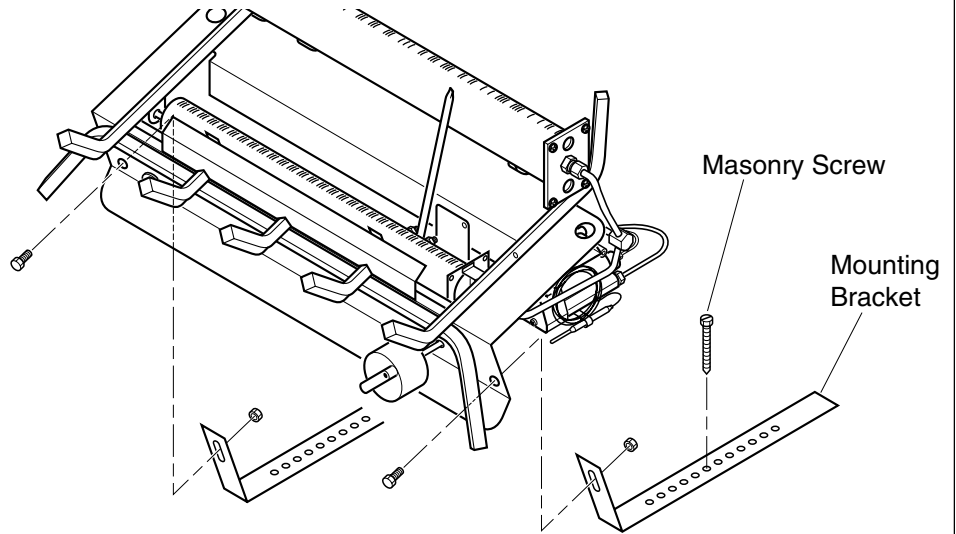

Figure 12 - Attaching Mounting Brackets to Heater
2. Locate mounting brackets, bolts, and nuts in hardware package. Attach mounting brackets to heater base (see Figure 12). Attach nuts finger tight.